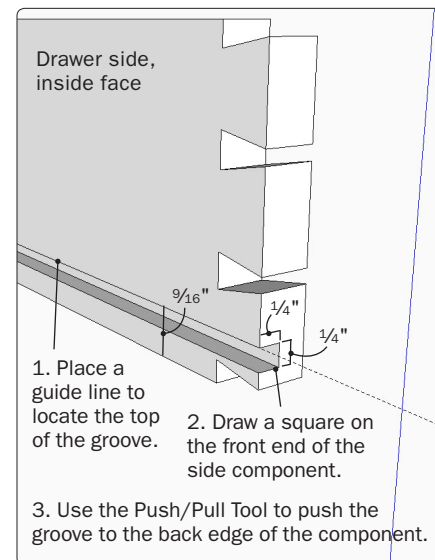
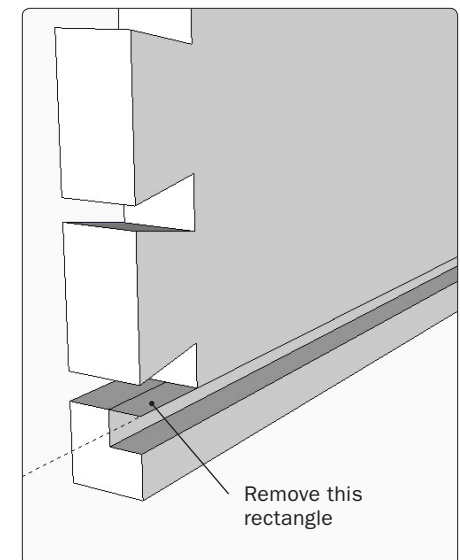

Figure 57. Make the groove that will hold the drawer bottom.
Figure 58. Delete waste at the top of a rear dovetail.
Step 46 Use the Orbit Tool to view the front end of the side component so you can add the groove on its inside face. Place a guide line to locate its top edge, as shown in Figure 57. Draw a square on the end of the component, then use the Push/Pull Tool to push the groove to the back edge of the drawer side. Creating the groove this way leaves a small rectangular shape at the back of the side. Use the Eraser Tool to delete this waste, as shown in Figure 58